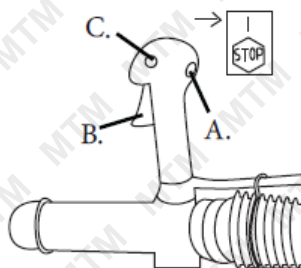

Fig.9
1. Make sure that the ignition switch (A) is in the on (I) position (Fig. 9).